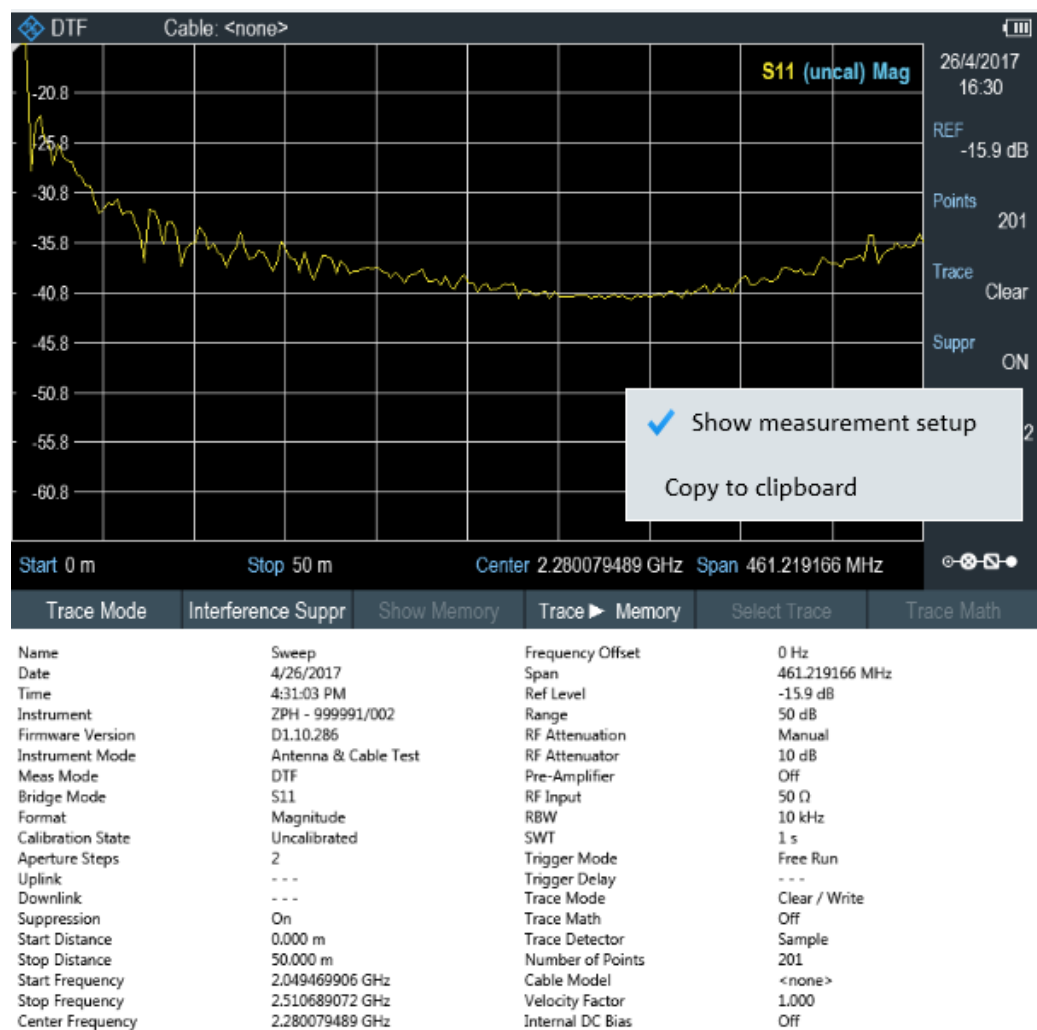

Figure 5-14: Screenshot
The "Screenshot" is used to capture the active instrument screen and display it in the trace window. See Figure 5-14.
- "Show measurement setup": if enabled, the instrument settings and the trace data are displayed below the screenshot. See Figure 5-14.